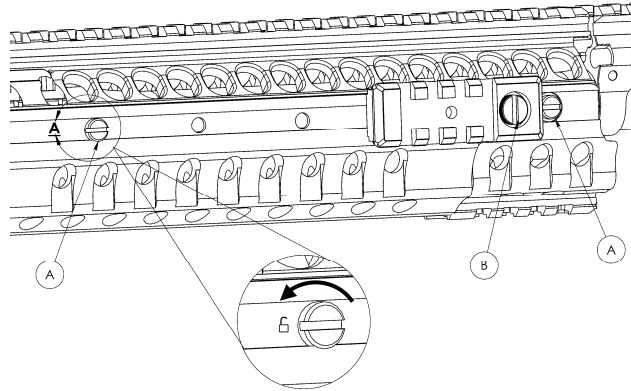

Figure 30.
1. Turn (A) screws 90° to unlock position. (Figure 30).
2. Loosen (B) screw. (Figure 30).